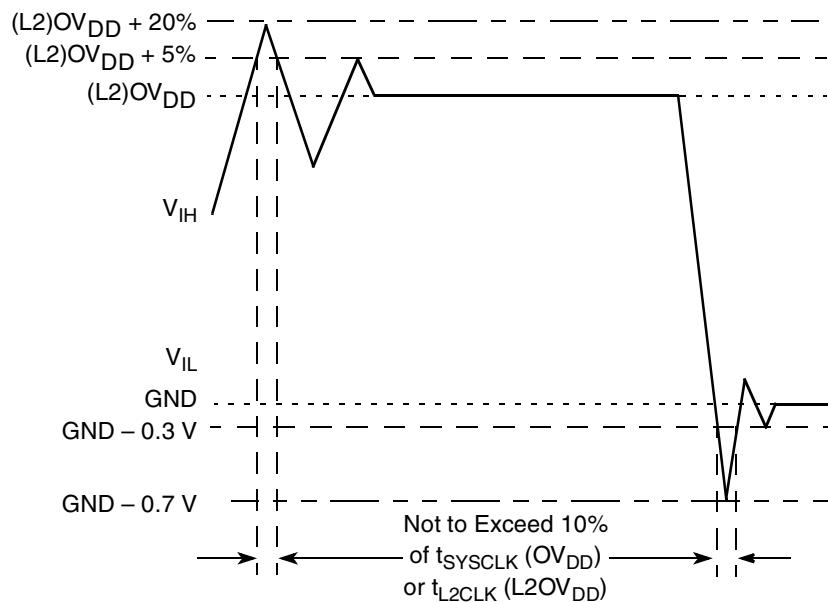

Figure 2. Overshoot/Undershoot Voltage
- V_{in} may overshoot/undershoot to a voltage and for a maximum duration as shown in Figure 2.
Figure 2 shows the allowable overshoot and undershoot voltage for the MPC7410.